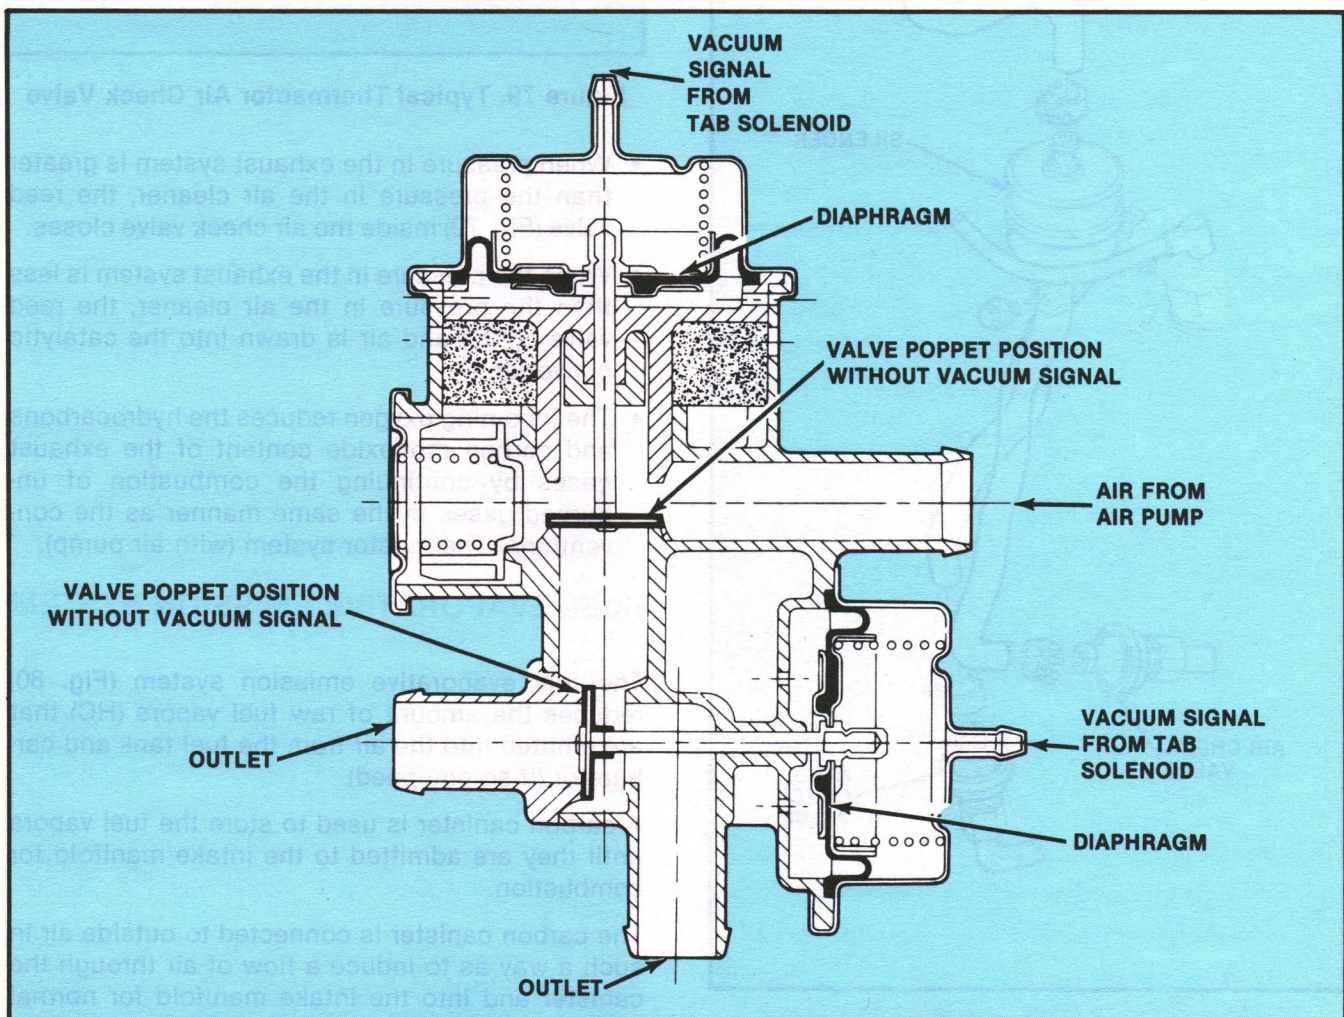

Figure 76. Combination Air Control Valve
- **Combination Air Control Valve (Fig. 76)**—A valve that combines the air control valve function of diverting Thermactor air upstream and downstream with the function of the air bypass valve.